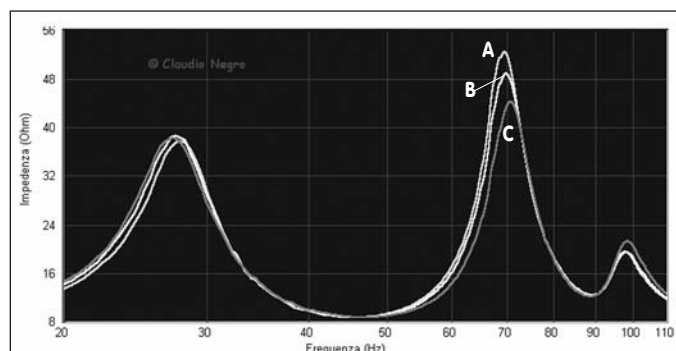

FIGURE 7: DCR impedance comparison with V1: bigger (A), ideal (B), smaller (C).
But what happens when the chamber volumes are not kept in the 2:1 proportion? I investigated this by leaving the V_2 volume the same while increasing V_1 by one liter first (A) and then decreasing V_1 by two liters (C), in comparison to the ideal 2:1 volumes ratio (B). The DCR total volume ($V_1 + V_2$) was 35 ltr. In the impedance chart in **Fig. 7** you can see the result: While the F_2 is almost the same for the three curves, the F_3 shows a notable difference in the smaller-than-ideal curve.